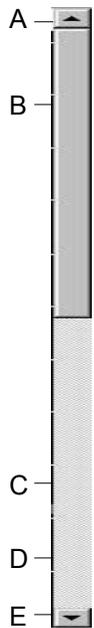

Figure 7-2
The scroll bar has five parts to it (see Figure 7-2). An up arrow (A), a top region (B), a thumb button (C), a bottom region (D), and a down arrow (E). The up arrow moves the associated object in the windows up one unit. The down arrow moves the object down one unit. The ‘unit’ may be a single line of text or a segment of the graph. To move the object by this single increment, place the cursor (using the mouse) over either button and press the **left** button once.